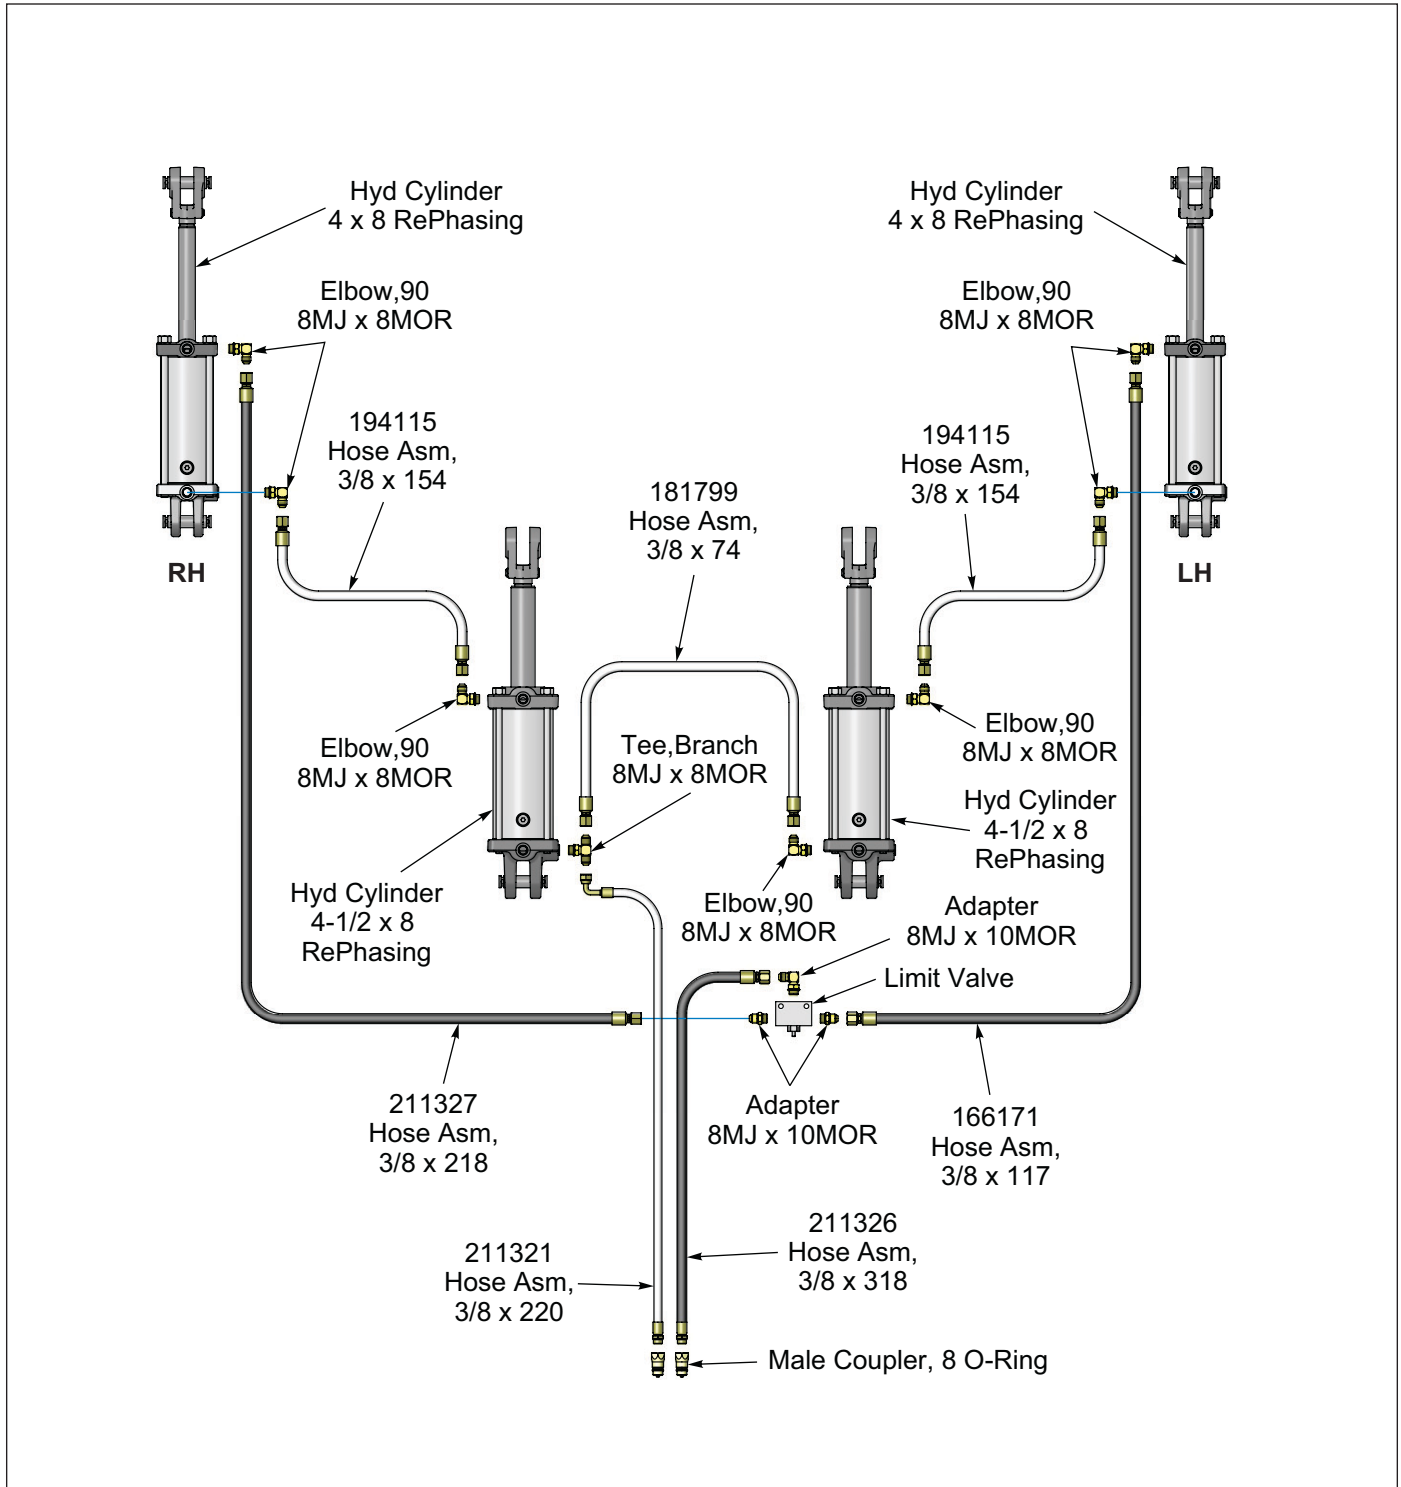

Figure 2-18: Simplified Hydraulic Tooth Control Schematic
1. Tooth Control Circuit - Black - See Figures 2-18, 2-19 and 2-20. The Tooth Control Circuit with shanks raised requires approximately 2.3 gallons of hydraulic oil, and with shanks lowered requires 2.6 gallons of hydraulic oil.
1. Install Limit Valve fittings. **See Figures 2-18 and 2-20.**
3. Install fittings and hoses for Tooth Control Hydraulic Cylinders. **See Figures 2-18, 2-19 and 2-20.** On each side, wrap both hoses near the hinge pin area with 26 inch hose wrap. Wing hoses can be set aside until time of wing assembly.